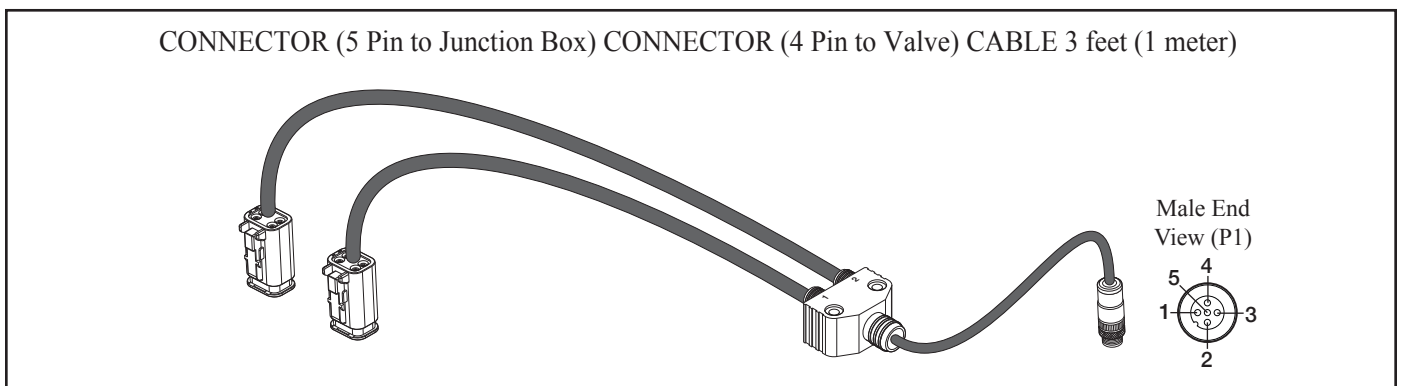

Figure 20. Solenoid Cable Detail.
9. Connect the Solenoid Cable to the directional valve and the other end to the Junction Box. (Refer to Figure 20.)